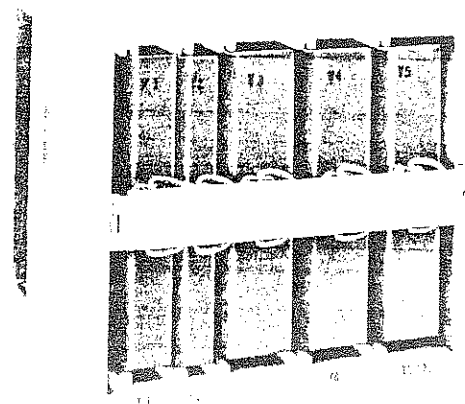

Fig. 1 — 247B TOUCH-TONE Adapter, Front View
2.01 The 247B TOUCH-TONE adapter (Fig. 1) is a plug-in unit approximately 7 inches high, 7-1/2 inches wide, and 7-3/4 inches deep. The adapter consists of four plug-in printed circuit units mounted in a metal case with space for mounting a fifth printed circuit unit which must be ordered separately.